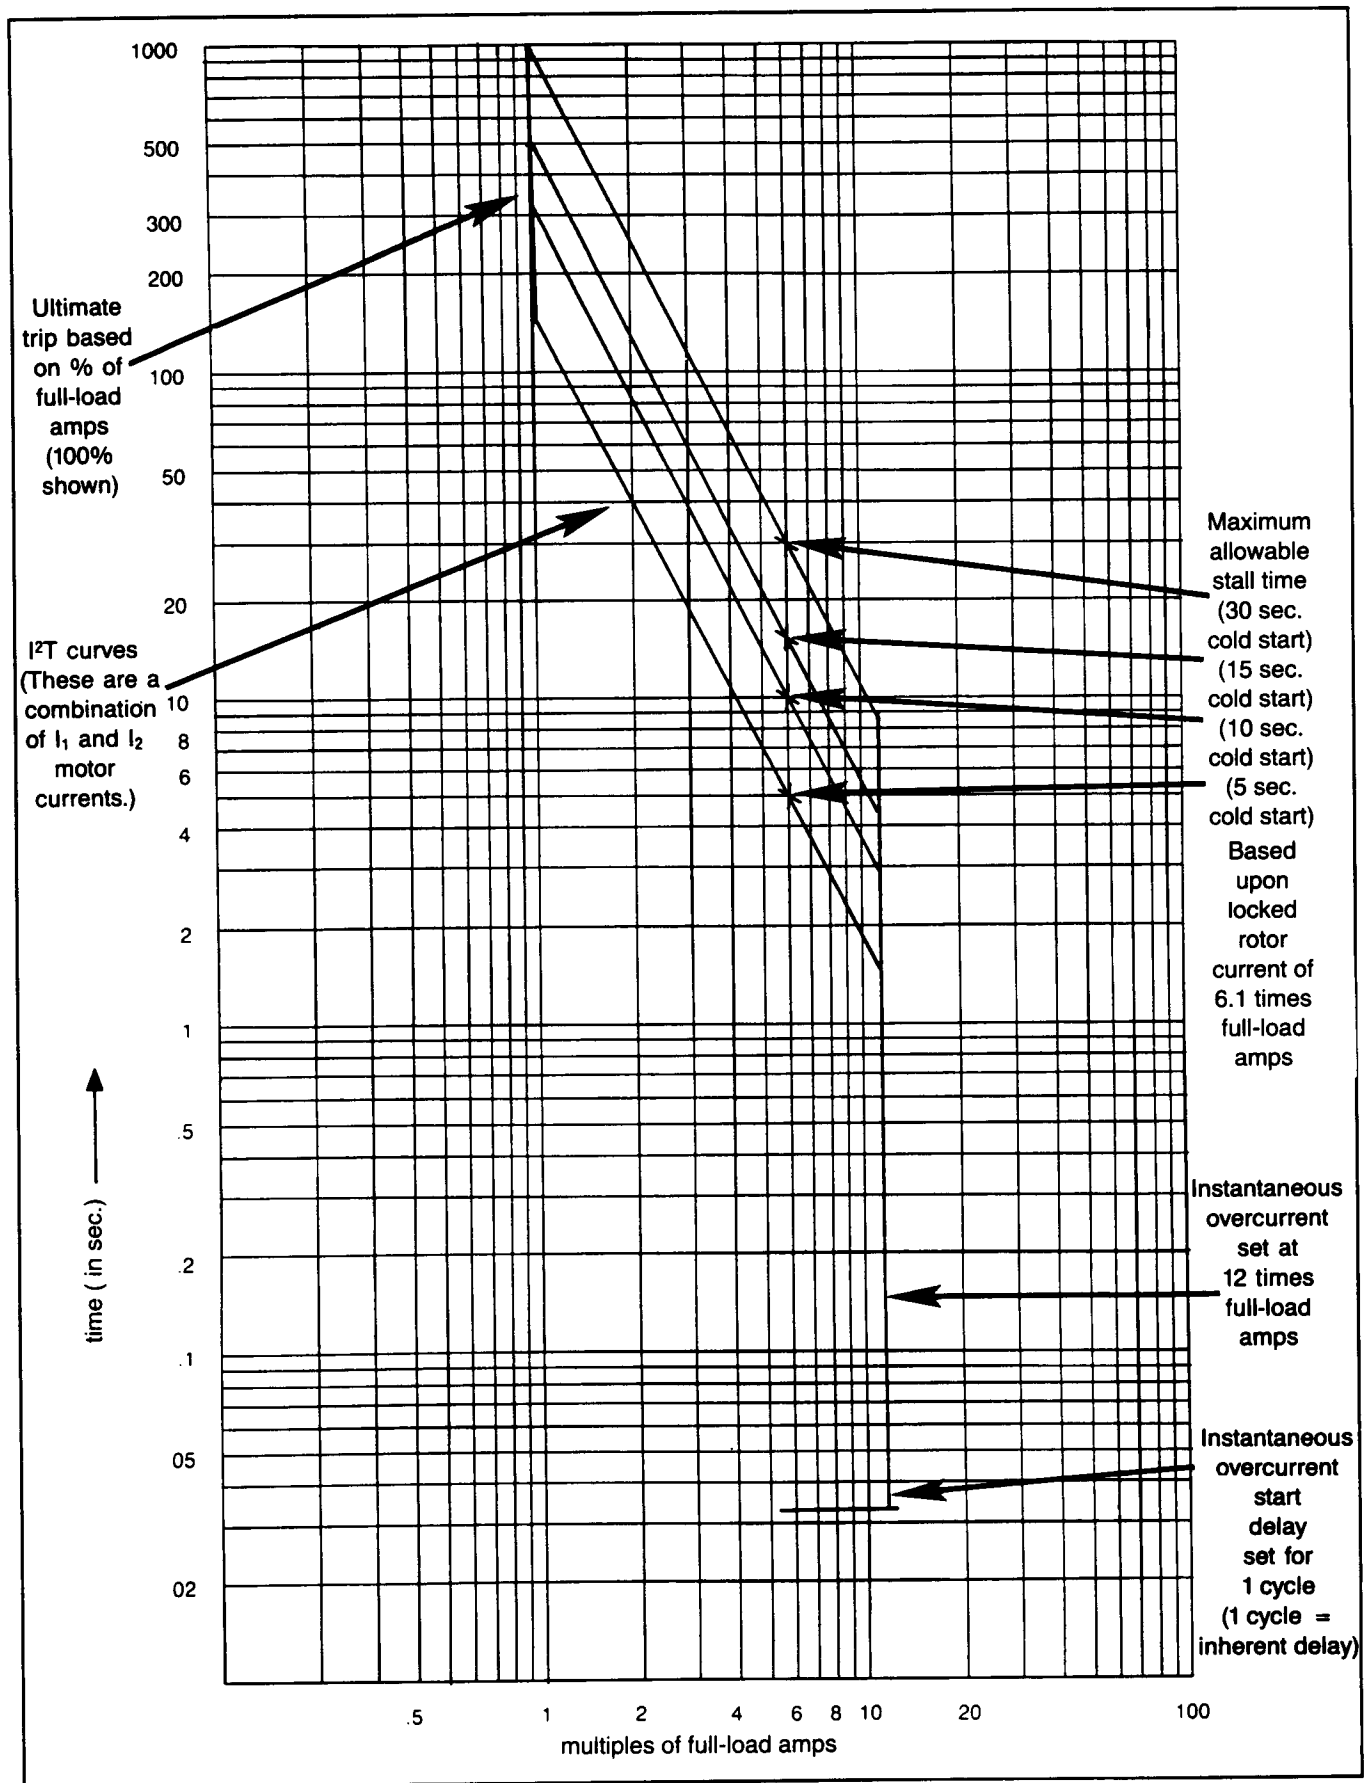

Figure 7.2 — Motor Protection Curve
point values. Note Figure 7.2. Ideally, this curve is located as close as possible to the motor damage curve, thus allowing maximum utilization of the motor without damage.
A brief discussion of how these values affect the motor protection curve is given in the following subparagraphs. The typical curve shown in Figure 7.2 is the result of the factors listed in these explanations.
**7.1.3.1 Instantaneous Overcurrent Function** — The specific instantaneous overcurrent (item 15) setpoint used in Figure 7.2 is 12 times (1200%) full-load amperes (item 42). In general, the instantaneous overcurrent setpoint for all applications should be at least 1.6 times the locked rotor current ratio. The instantaneous overcurrent setpoint available range is 300 thru 1600% of full-load amperes.
**7.1.3.2 Locked-Rotor Function** — The family of curves shown in Figure 7.2 is based upon a locked-rotor current set point (item 17) of 6.1 times (610%) the full-load amperes function's (item 42) set point and a variable locked-rotor stall time set point (item 18).
All curves shown in Figure 7.2 are based on a maximum allowable stall time from a cold start. Since the IQ-1000 II's algorithm retains a history of both the operating current and operating time of the motor, it is not necessary to program it for hot starts. The unit automatically takes into consideration whether it is a hot or cold start. The locked-rotor set point, however, should be set for a cold start.